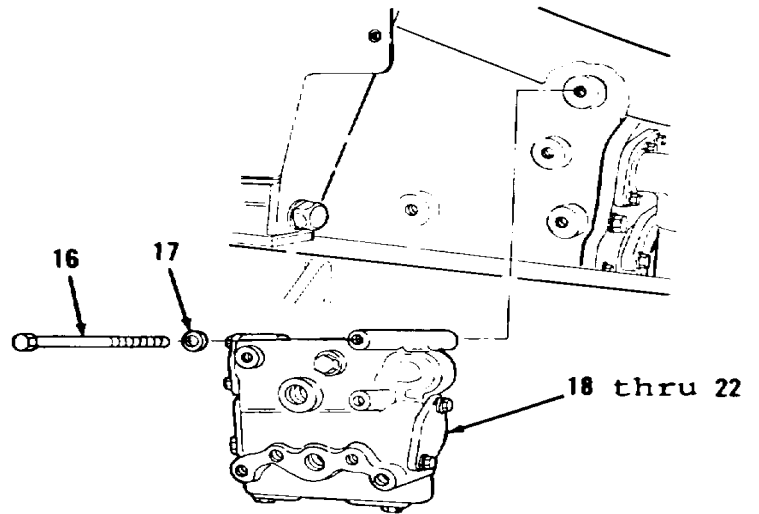
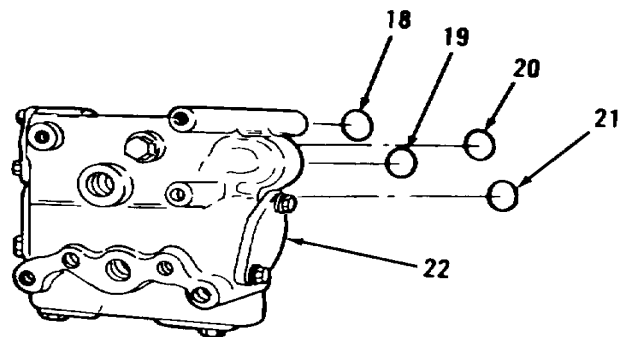

Figure 5-44.
Figure 5-45.
9. Support items 18 thru 22 as an assembly (Figure 5-44).
10. Remove four bolts (16), washers (17) and items 18 thru 22 as an assembly.
11. Remove and discard preformed packings (18 thru 21) from valve assembly (22, Figure 5-45).